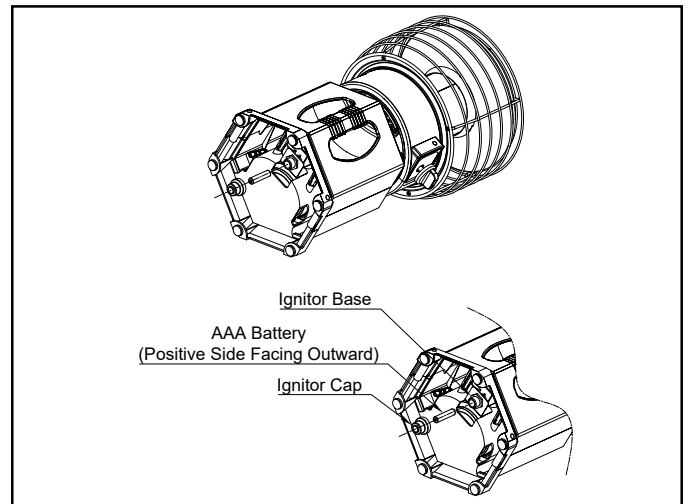

Fig. 2 - Insert AAA Battery
1. Insert 1 AAA Battery into the compartment under the unit before lighting (see figure 2)